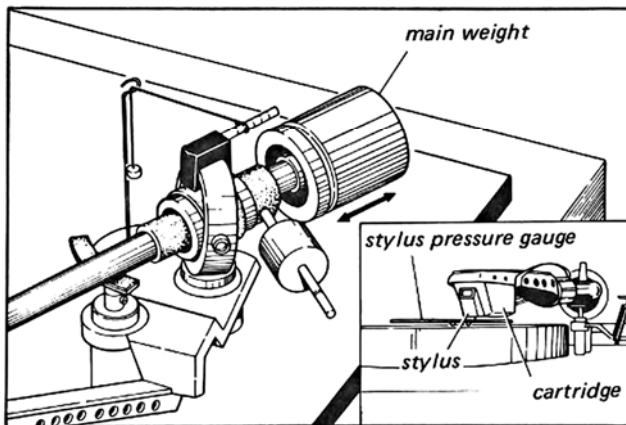

Fig. 4-1
3. Set the stylus in the notch of the stylus pressure gauge so that the number on the gauge coincides with the stylus pressure as Fig. 4-1. Each notch represents 0.5 gram.